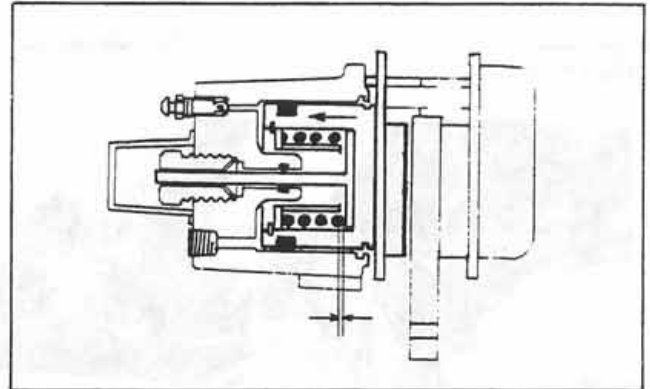
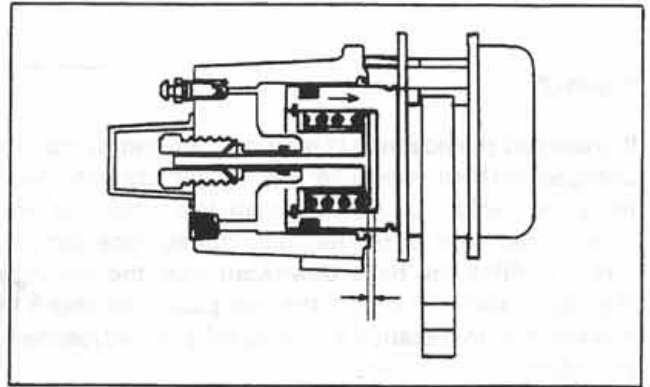

Figure 4:
Figure 5:
The single piston Hydraulic Caliper receives fluid under pressure from the brake master cylinder. Fluid pressure then forces the piston forward to compress the linings against the disc (Fig. 3). As the brake pedal pressure is released, a retractor assembly inside the piston pulls the piston rearward for more pad to disc clearance (Fig. 4). As the brake pads wear, the pad to disc clearance still remains the same because the retractor pin will creep slightly in the collet when the spring travel limit has been obtained (Fig. 5). This caliper assembly is mounted to the brake hangers through studs thus allowing fore and aft caliper movement similar to that described previously. Later production tractors employ two (2) hydraulic calipers on a single rotating disc.